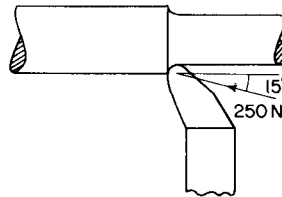

Fig. 2.8 The force acting on a lathe tool possesses both size and direction and hence it is a vector quantity
**Force as a vector quantity.** A vector is a quantity which possesses both size and direction. A force which acts on a body in a particular direction is a vector quantity. Fig. 2.8 shows a force acting on a lathe tool. The force has a size (250 N) and a particular direction (indicated by the angle of  $15^\circ$  and the arrow-head). Again, the weight of an object is a vector quantity, since it is the force exerted by the earth on the object and it acts towards the centre of the earth. If the object is to be lifted upwards a force must be applied vertically upwards to overcome the gravitational force exerted by the earth.